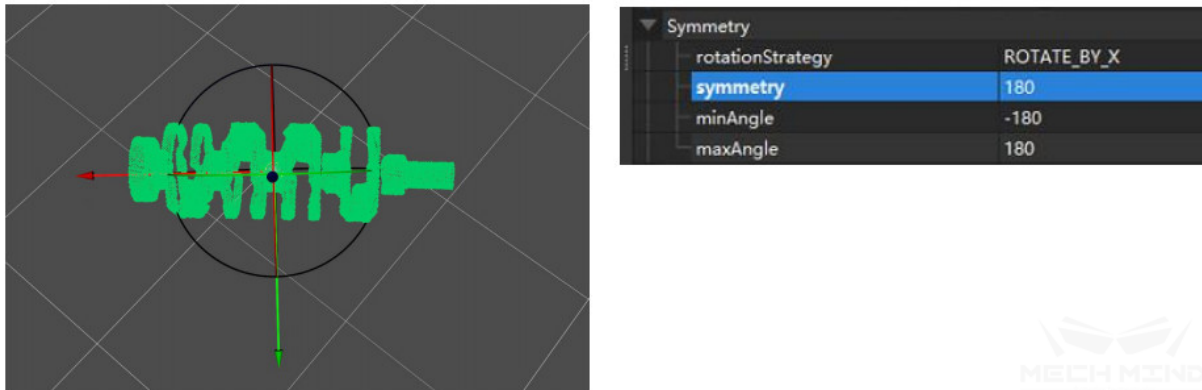

Figure 2.2 Axisymmetry - crankshaft
- Axisymmetric workpiece: select the coordinate axis along the axial direction as the axis of symmetry, and set the symmetry to 180 degrees in *3D Fine Matching*; as shown in figure 2.2 (left: axis of symmetry; right: parameter settings).